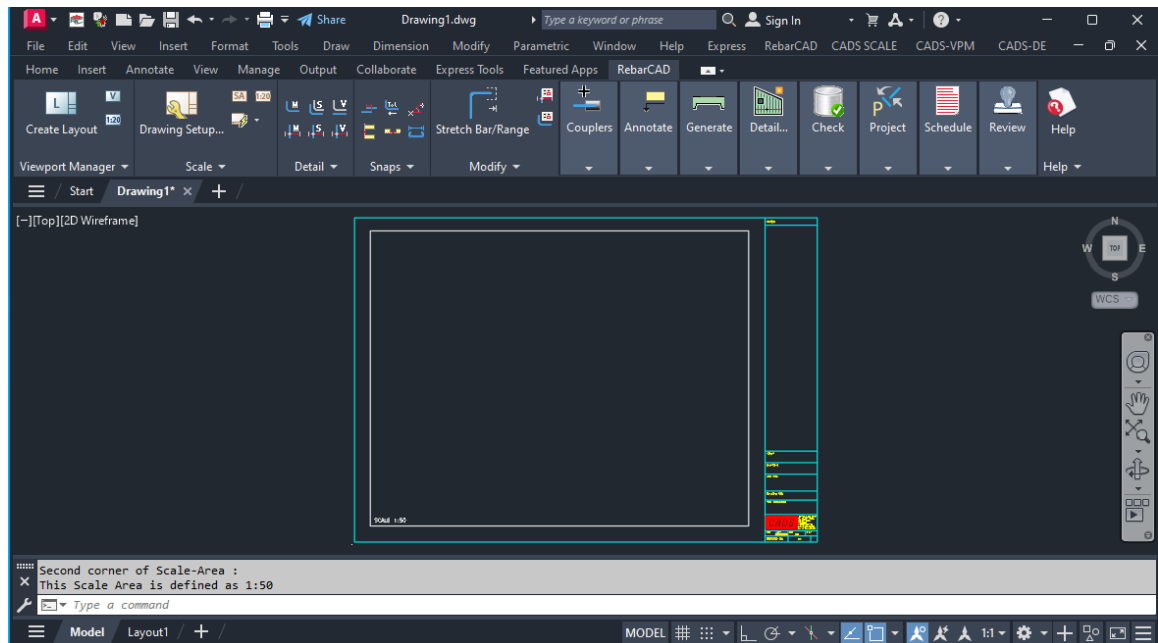

Figure 2.9 Completed A1 Fast Mode Setup with 1:50 Scale Area
- ▶ When you have defined the scale area, the CADS: Setup Scale dialogue box will appear and you may select the required scale, in this case 1:50. Upon leaving the dialogue box via the OK button, the drawing will be displayed as shown in Figure 2.9.